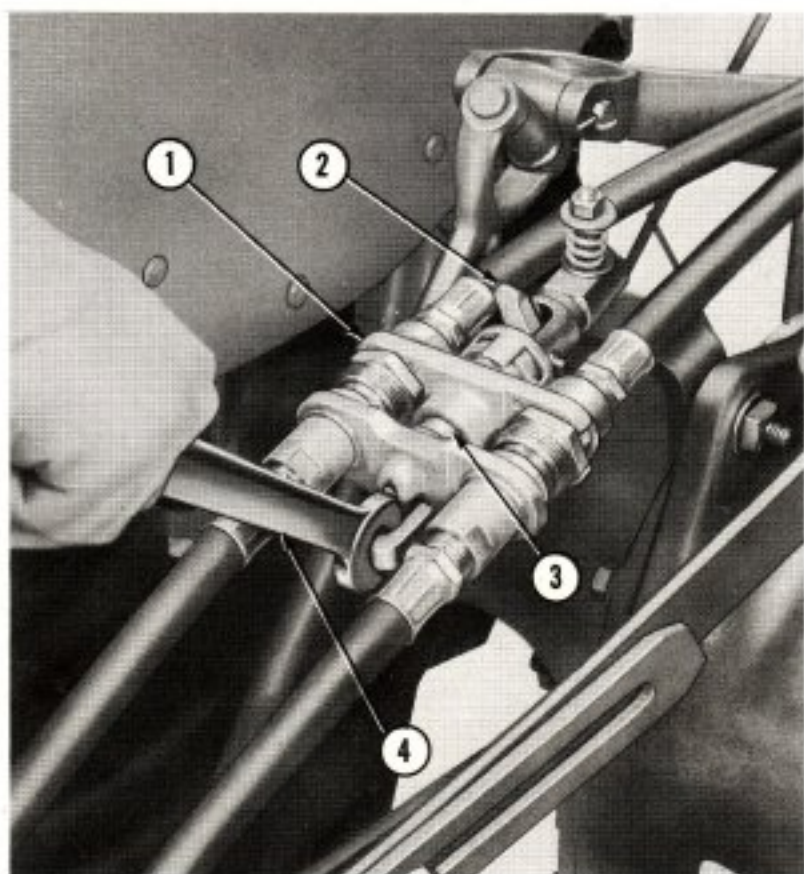

Figure 5
The Remote Control Attachment, Model 23-11, is used with the Remote Control Valve and has many applications on various farm implements. The breakaway coupling (1), Figure 5, provides two important features to users of modern hydraulically controlled farm equipment. It permits quick, easy connecting or disconnecting of hydraulically controlled farm implements and eliminates breaking of the hose lines and losing oil in the event that the implement breaks away from the tractor.
The breakaway coupling consists of four self-sealing coupling halves mounted in frames which are held in a coupled position by a mechanical latch. The couplings may be separated automatically by a pull on either hose line attached to the implement, or manually by moving the release (2), Figure 5, towards the rear. To reattach the halves of the coupling, clean the ends thoroughly and insert the frame (3), Figure 5, on the rear half of the coupling into the front half of the coupling. Use a wrench (4), Figure 5, or screw driver as a lever to pry the halves of the coupling together.